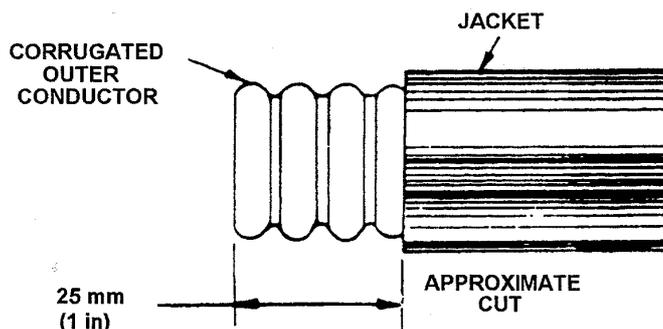
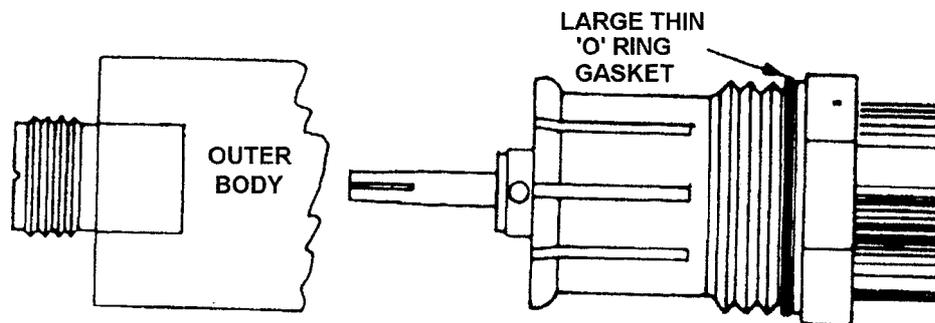

Figure 3.56. Preparing the Cable
Figure 3.63. Installing the Outer Body
1. A radio frequency (RF) coaxial cable is used for the run between the Bulkhead Transceiver Unit and the Turning Unit with S-Band radars. The cable used is Andrew Antennas Heliac LDF5-50A 7/8in 50-ohm – overall diameter 28mm (1.1in). (Figure 3.56 to Figure 3.63 are reproduced by permission of Andrew Antennas).
- a. Ensure that the end of the cable is straight for at least 10in (250mm). Using a knife, remove approximately 1in of the jacket. Deburr the sharp end of the cut outer conductor (Figure 3.56).
- i. Place the large thin 'O' ring in the gasket groove in the clamping nut (see Figure 3.63) and coat the outer surface of the gasket lightly with silicone grease. Screw the outer body of the connector onto the clamping nut and tighten with spanners. Turn the outer body only; do not turn the clamping nut.